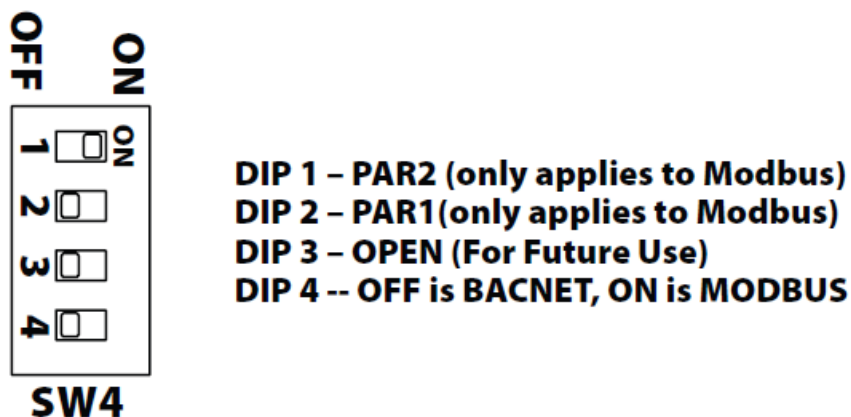

Figure 5: SW4 Dipswitch Settings
- BACnet or Modbus RTU protocol selection is done via SW4 switch. Place dipswitch #4 to the OFF position for BACnet and the ON position for Modbus. Refer to Figure 5.
Confirm Modbus Protocol is selected via dipswitch #4 on SW4 see Figure 5. The device that requests information is called the Modbus Master and the devices giving the information are Modbus Slaves. The Modbus sensors are slave devices and the number of Data Bits needs to be the same as in the Master device configuration. ACI's Modbus RTU sensors utilize 8 data bits during communication exchange. Parity and stop bit selection is performed via the SW4 switch located on the board. Dipswtiches #1 and #2 are adjusted to select the Parity and stop bits – see Table 6. Where (0) is OFF and (1) is ON. If BACnet protocol is selected these dipswitches are